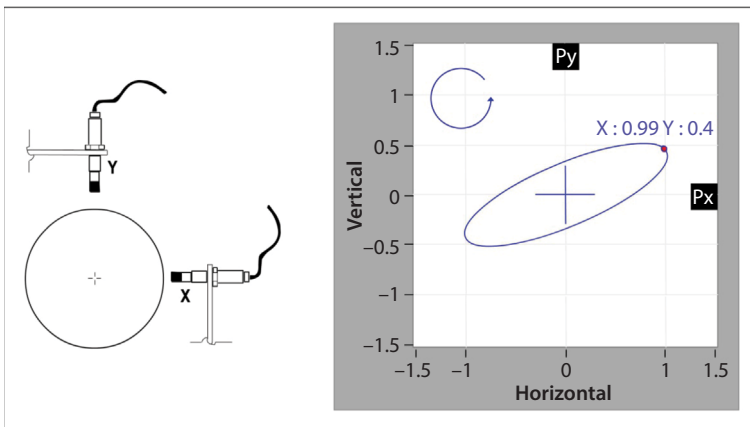

Figure 16.3 Orbit plot generated from two orthogonal proximity probe.
- Orbit plot: a plot that shows the path that the center line of the shaft at a given point will take at a given speed (Figure 16.3).